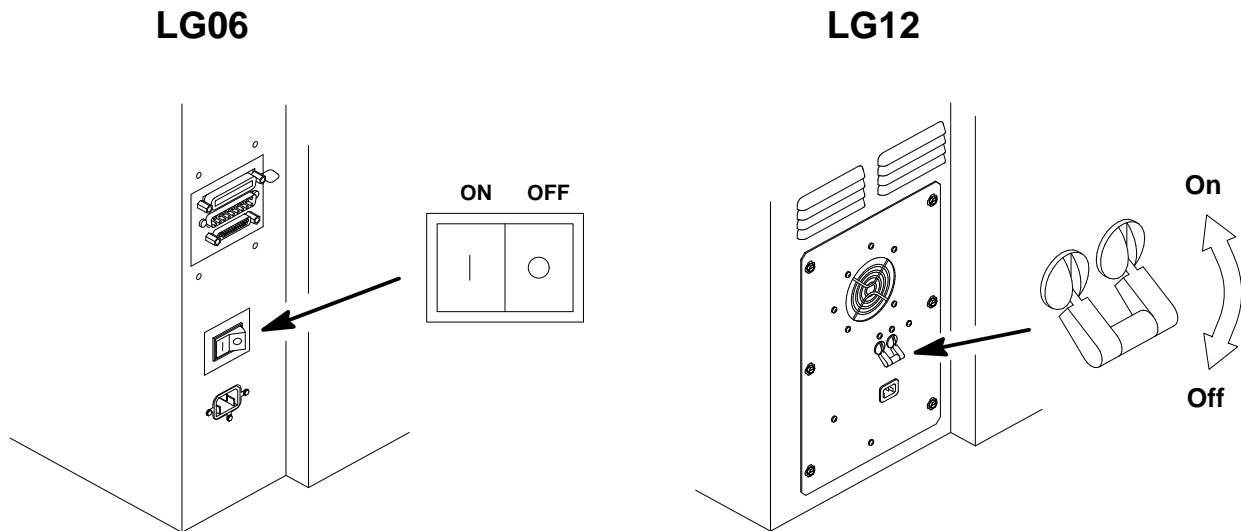

Figure 3–1. Power Switch
2. Set the power switch to the on position. (See Figure 3–1.)
2. Set the power switch to the off position. (See Figure 3–1.)
The operator control panel is at the front of the printer. (See Figure 3–2.) With the printer cover closed, the status lamps, message display, and four switches governing normal printer operation are accessible. With the printer cover raised, eight more switches are accessible. The eight additional switches are used to set printer operating parameters, run self tests, and set paper position. You also use the operator control panel to clear a fault condition and resume printing.
See Figure 3–2 for the locations of control panel switches and indicators.